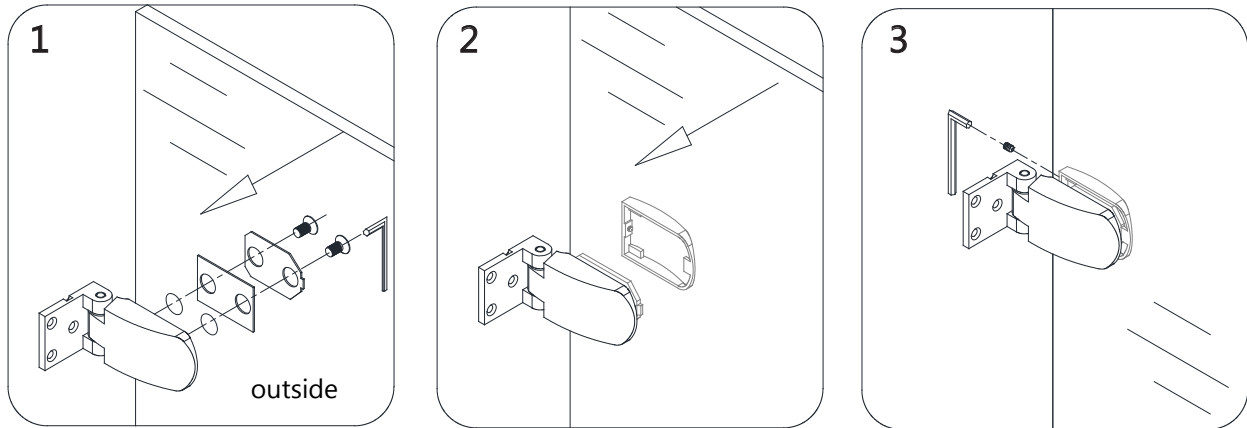

Fig 1
1. Assemble the **Hinges (#05)** onto the **Door Glass (#01)** using the pre-drilled holes and the bolts with the decorative cover. To remove the decorative cover and reveal the bolts, loosen the set screw on the back side of the decorative cover using the **2mm Hex Wrench (#08)** (**Fig 1**)